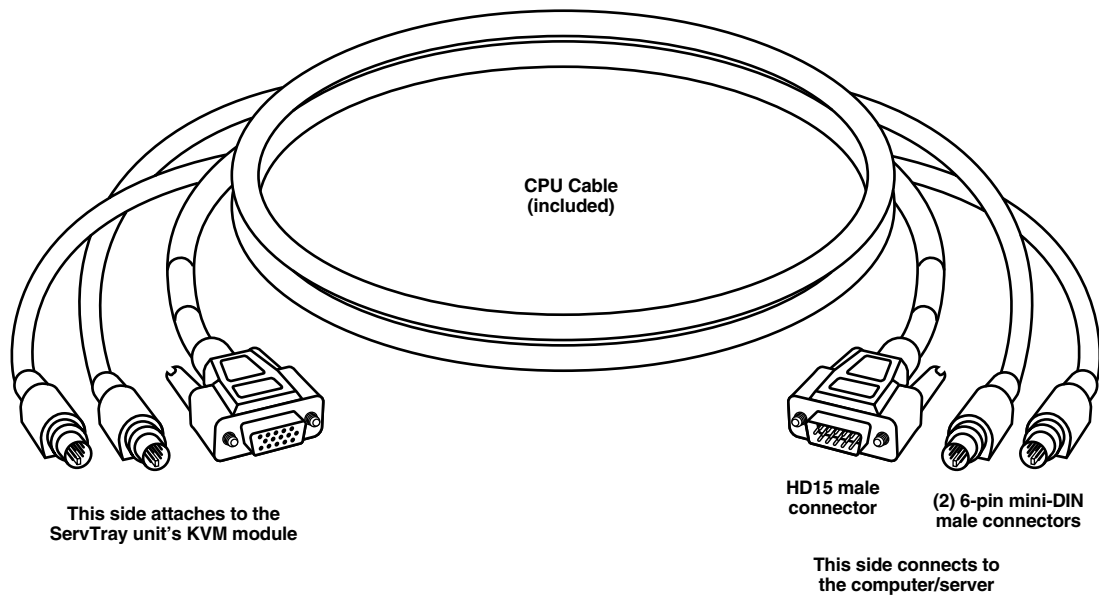

Figure 3-9. Cable for connecting the KVM module to a computer.
- Once the ServTray is installed in the rack cabinet, you can connect it to a computer. The KVM module's connectors attach to the KVM connectors on a PS/2 CPU via the CPU Cable (included) shown in Figure 3-9.